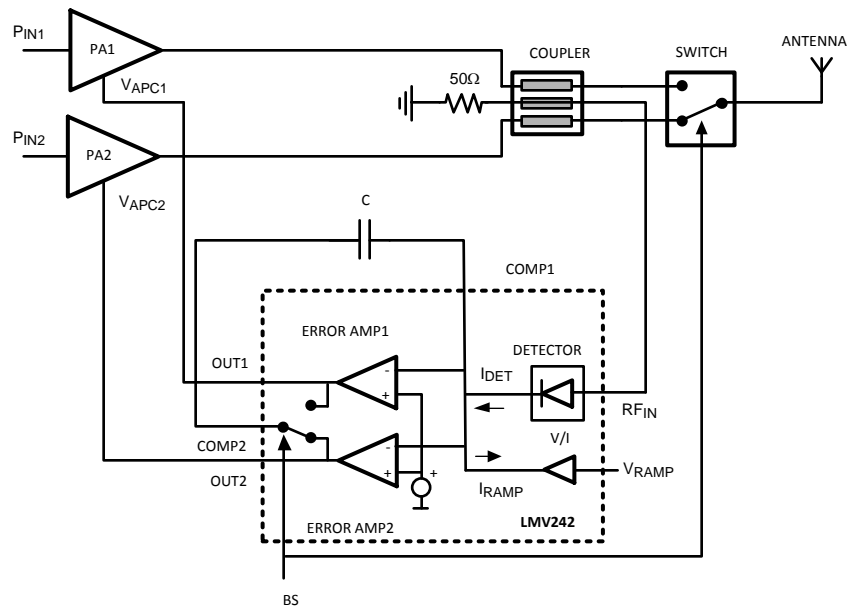

Figure 25. PA Control Loop
A typical setup of PA control loop is depicted in Figure 25. Beginning at the output of the Power Amplifier (PA), this signal is fed, usually via a directional coupler, to a detector. The error between the detector output current  $I_{DET}$  and the ramp current  $I_{RAMP}$ , representing the selected power setting, drives the inverting input of an op amp, configured as an integrator. A reference voltage drives the non-inverting input of the op amp. Finally the output of the integrator op amp drives the gain control input of the power amplifier, which sets the output power. The loop is stabilized when  $I_{DET}$  is equal to  $I_{RAMP}$ . Lets examine how this circuit works in detail.